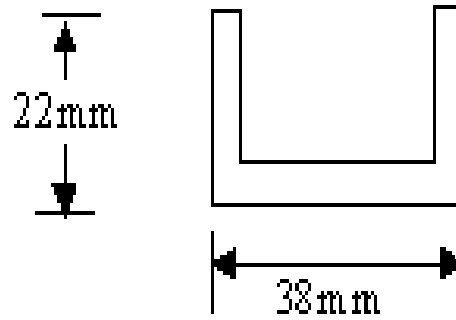

Figure 6
- (b) Find crippling stress for the sections shown in figure 6 using Gerard's method. [8+8]